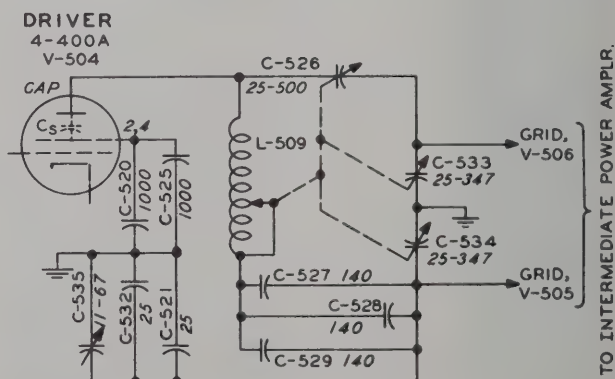

Figure 113. Radio Transmitter T-454/FRT-26, Coupling Circuit, Driver to Intermediate Power Amplifier, Simplified Diagram.
- (c) To better explain the method of obtaining push-pull excitation from this circuit, fig. 113 is used. For this discussion, only the equivalent r-f circuit is neces-